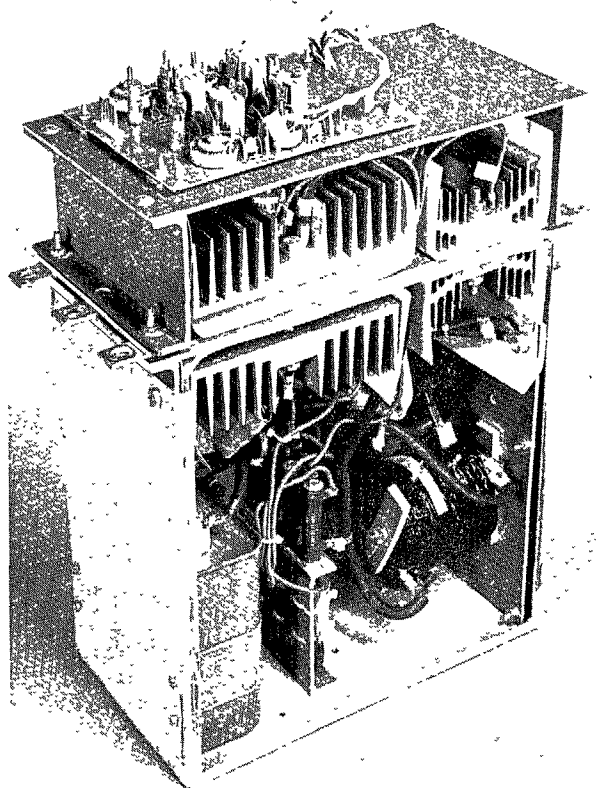

FIGURE 24
2. Stand the phase module on its back side on a 30" high table. The pulse transformer printed circuit card should be on top. (Normally on the front of the inverter phase module). See Fig. 24.